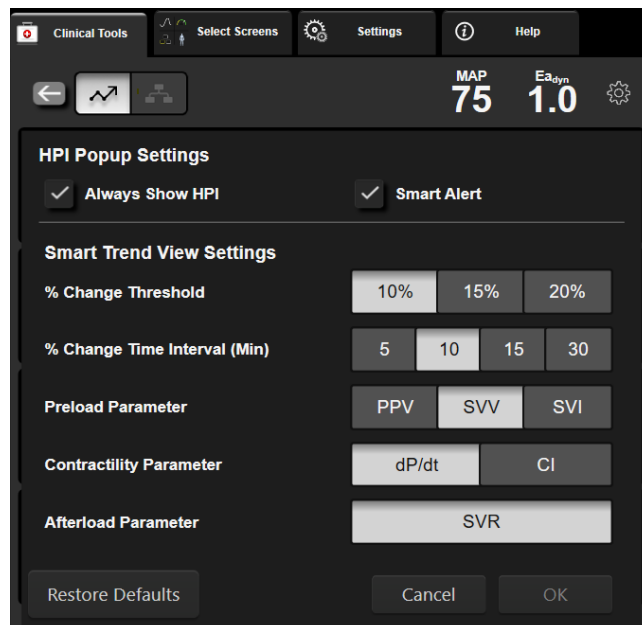

Figure 14-9: HPI secondary screen - smart trend view settings
3. Disable the **Always Display HPI** option button. See Figure 14-9 on page 265.